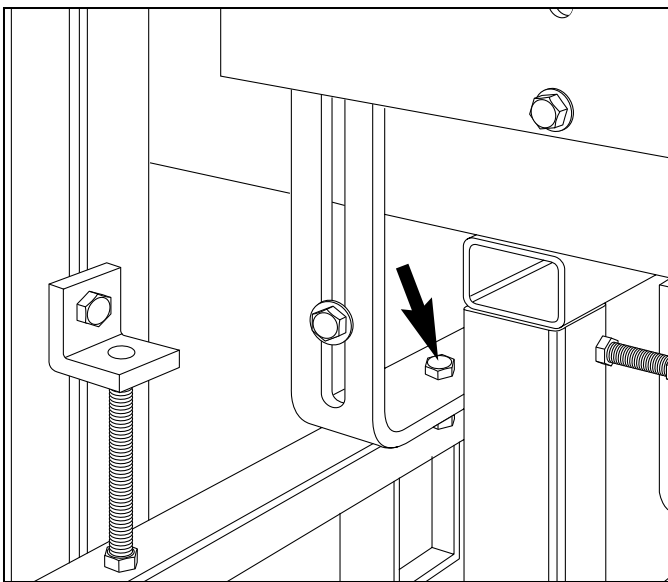

Figure 3.26 CONVEYOR BOLTED TO ACCUMULATOR
3.9.2.3 Bolt conveyor to unloader Accumulator as shown in figure 3.26.
3.9.2.6 Weld 1/2" sq. X 3" [13mm² X 76mm] key to secure legs (figure 3.26).
3.9.3.3 Weld 1/2" sq. X 3" [13mm² X 76mm] key to secure legs (figure 3.26).